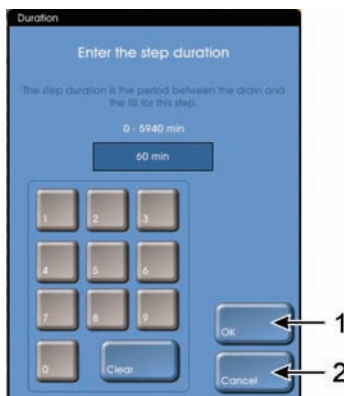

Figure 73: Duration dialog box with OK button (1) and Cancel button (2)
3. Enter the new duration using the "Duration" keypad (see Figure 73).